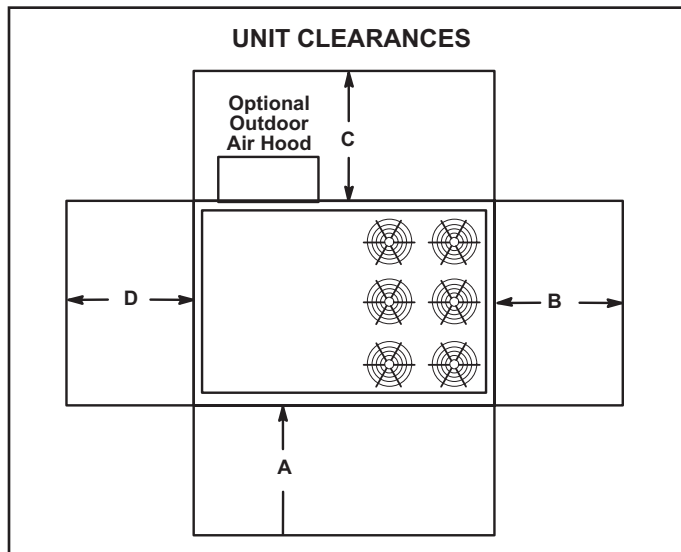

FIGURE 1
See FIGURE 1 and TABLE 1 for unit clearances.
- 2 - Specified installation clearances must be maintained when installing units. Refer to FIGURE 1.